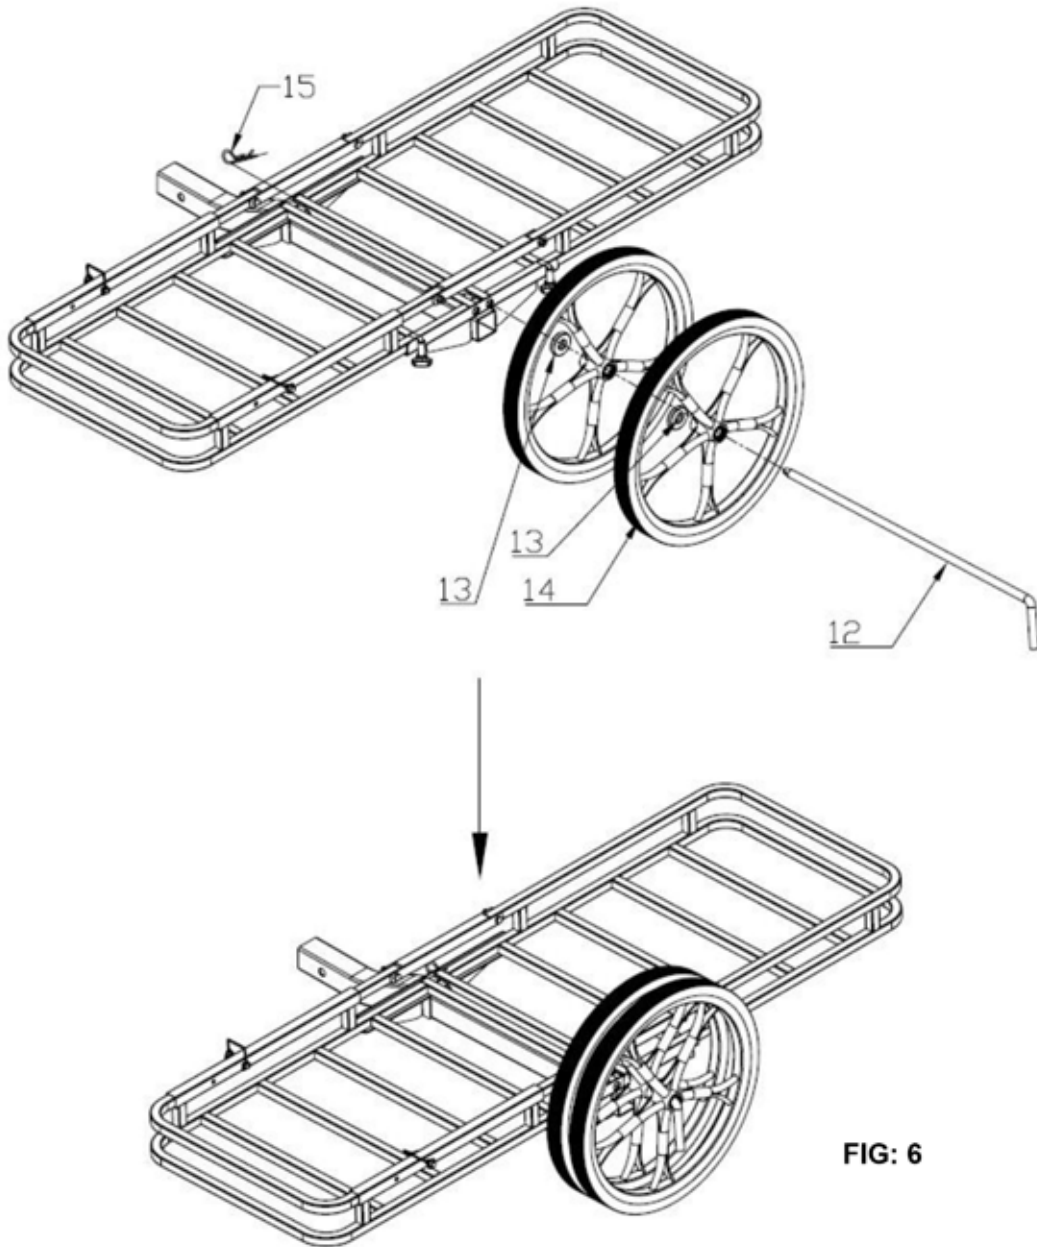

FIG: 6
6. Pass through the long bend pin (12) to solid roller (14) (2Pcs) and protective sleeve (13) (2Pcs) as shown and insert it into any hole of the bottom carrier frame. Insert and fix M3.8 split pin (15) on the other end after passing through the square pipe. See FIG 6.